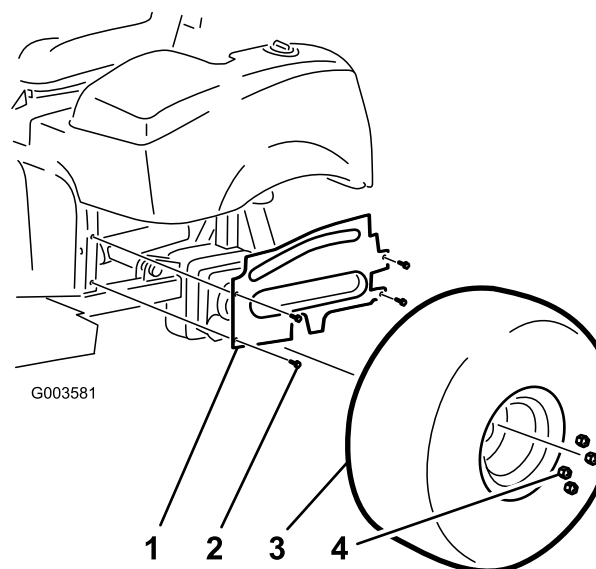

Figure 3
4. Remove the 4 flange-head screws securing the left-hand wheel shroud to the frame (Figure 3). Remove and retain the shroud.